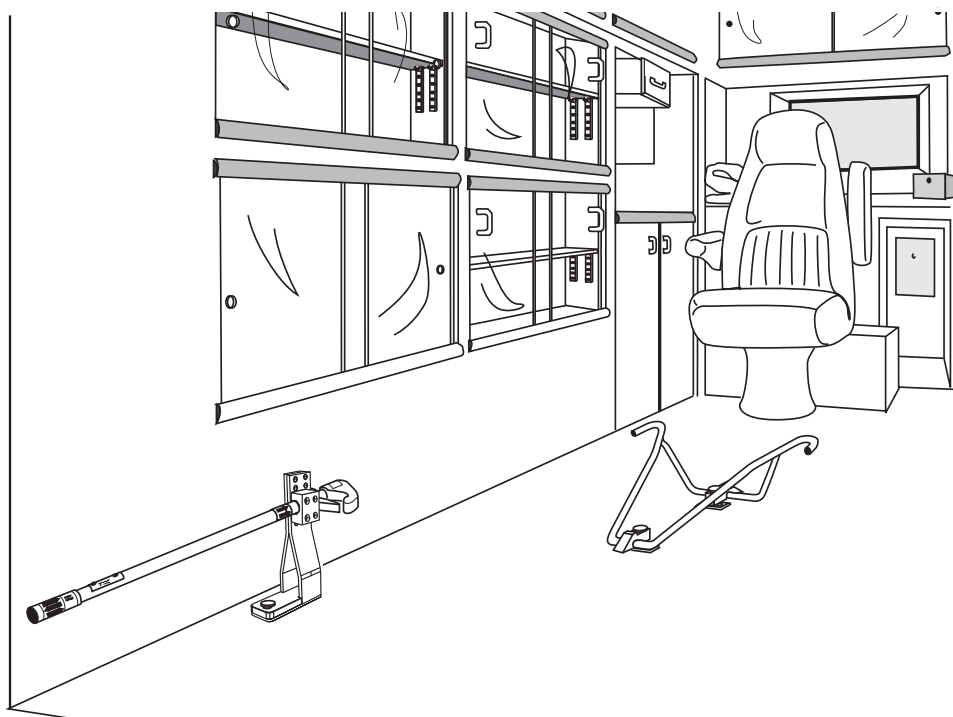

Figure 28 - Final Fastener Configuration
5. Inspect the fastener for proper locking and unlocking of the cot, and secure mounting to the floor. When complete, the installed fastener should resemble Figure 28 on page 27.